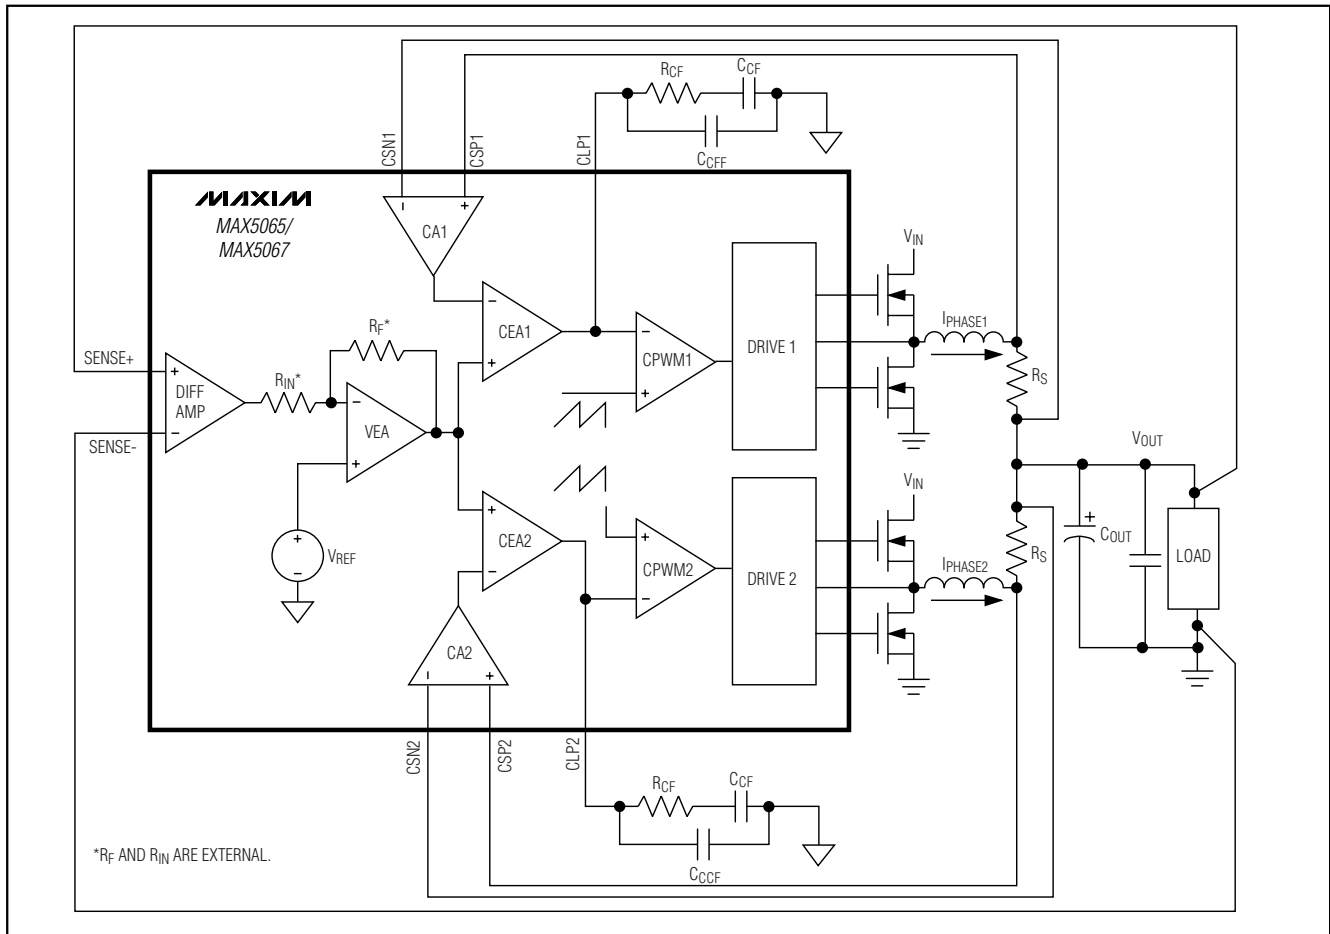

Figure 4. MAX5065/MAX5067 Control Loop
The MAX5065/MAX5067 use an average-current-mode control scheme to regulate the output voltage (Figure 4). The main control loop consists of an inner current loop and an outer voltage loop. The inner loop controls the output currents (I_{PHASE1} and I_{PHASE2}) while the outer loop controls the output voltage. The inner current loop absorbs the inductor pole reducing the order of the outer voltage loop to that of a single-pole system.
The outer voltage control loop consists of the differential amplifier (DIFF AMP), reference voltage, and VEA. The unity-gain differential amplifier provides true differential remote sensing of the output voltage. The differential amplifier output connects to the inverting input (EAN) of the VEA. The noninverting input of the VEA is internally connected to an internal precision reference voltage. The MAX5067 reference voltage is set to +0.8V and the MAX5065 reference is set to +0.6V. The VEA controls the two inner current loops (Figure 4). Use a resistive feedback network to set the VEA gain as required by the adaptive voltage-positioning circuit (see the *Adaptive Voltage Positioning* section).
Each phase of the MAX5065/MAX5067 has a dedicated transconductance current-error amplifier (CEA_n) with a typical g_m of 550 μ S and 320 μ A output sink and source current capability. The current-error amplifier outputs, CLP1 and CLP2, serve as the inverting input to the PWM comparator. CLP1 and CLP2 are externally accessible to provide frequency compensation for the inner current loops (Figure 4). Compensate CEA_n so the inductor current down slope, which becomes the
The differential amplifier (DIFF AMP) facilitates output voltage remote sensing at the load (Figure 4). It provides true differential output voltage sensing while rejecting the common-mode voltage errors due to high-current ground paths. Sensing the output voltage
The VEA output clamps to +0.9V relative to VCM (+0.6V), thus limiting the average maximum current from individual phases. The maximum average current-limit threshold for each phase is equal to the maximum clamp voltage of the VEA divided by the gain (18) of the current-sense amplifier. This results in accurate settings for the average maximum current for each phase. Set the VEA gain using RF and RIN for the amount of output voltage positioning required within the rated current range as discussed in the *Adaptive Voltage Positioning* section (Figure 4).
Average-current-mode control has the ability to limit the average current sourced by the converter during a fault condition. When a fault condition occurs, the VEA output clamps to +0.9V with respect to the common-mode voltage ($V_{CM} = +0.6V$) and is compared with the output of the current-sense amplifiers (CA1 and CA2) (see Figure 4). The current-sense amplifier's gain of 18 limits the maximum current in the inductor or sense resistor to $I_{LIMIT} = 50mV/R_S$.